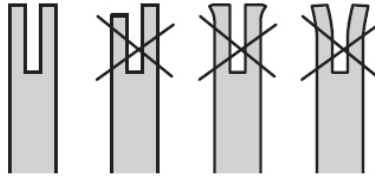

Fig. 27
5). Check the guide bar 'rail' for wear: Hold a ruler (straight edge) against the side of the guide bar and 'cutter side plates'. If there is a gap between the ruler and guide bar the guide bar 'rail' is normal. If there is no gap (ruler flush against the side of the guide bar) the guide bar 'rail' is worn and needs to be replaced with a new one of the same type. (See Fig. 27)